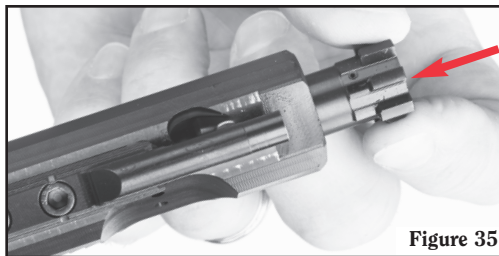

Figure 35
- d. Insert the bolt into the bolt carrier (Figure 35).